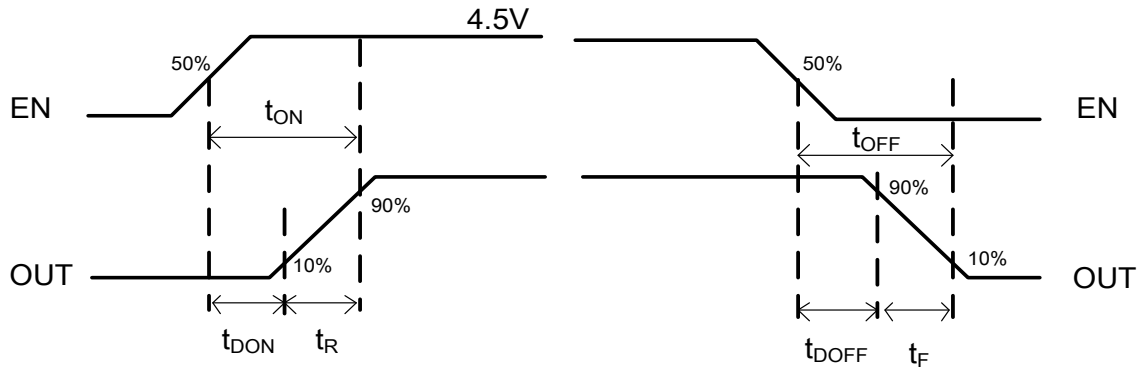

Figure 2.
- $t_{DON} / t_{DOFF} / t_R / t_F$ are defined in Figure 2.